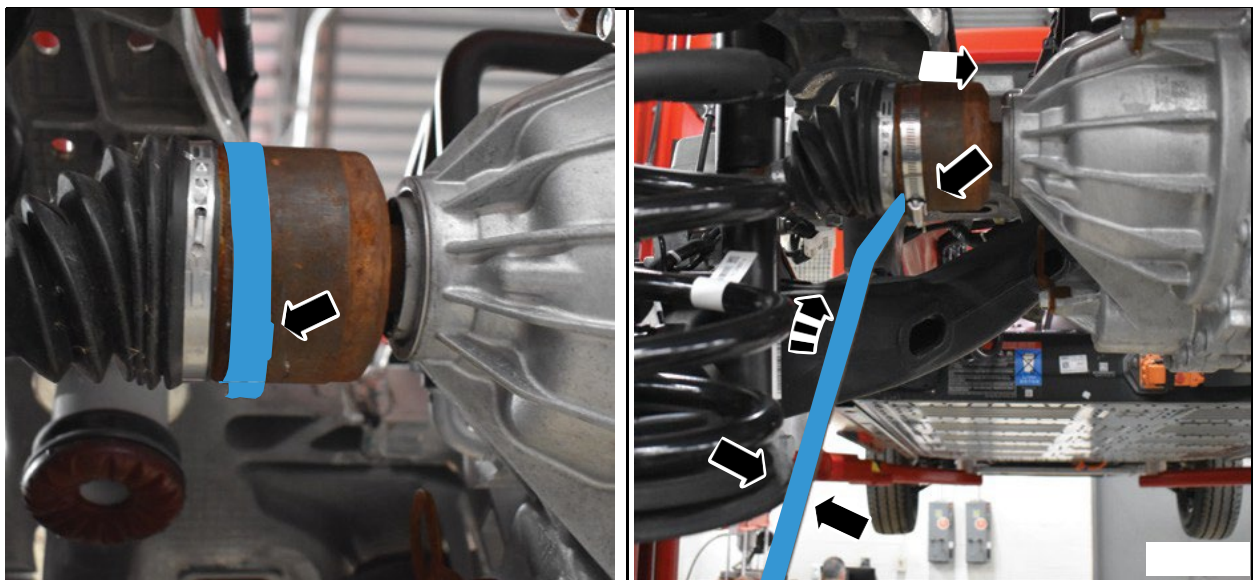

FIGURE 6
6. Install the provided band clamp on the LH rear halfshaft cylinder as shown in Figure 6.
NOTE: Position worm nut as shown in Figure 6 to avoid damage to rubber boot.
- See Figure 6. Proceed to next Step.